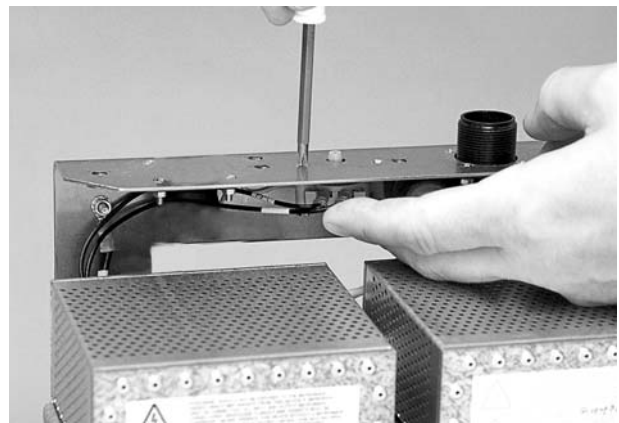

Figure 4-13 Pressure Switch Removal
3. See Figure 4-13. Remove the M3 screws securing the pressure switch to the insulating plate.